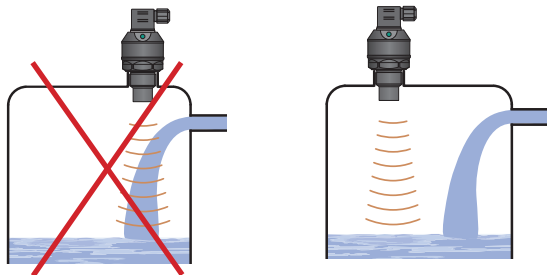

Fig. 4: Installation of the device out of reach of filling circulation
- Do not install the device in or above the **filling point** (Fig. 4). The measurement could be affected by the inflowing medium.